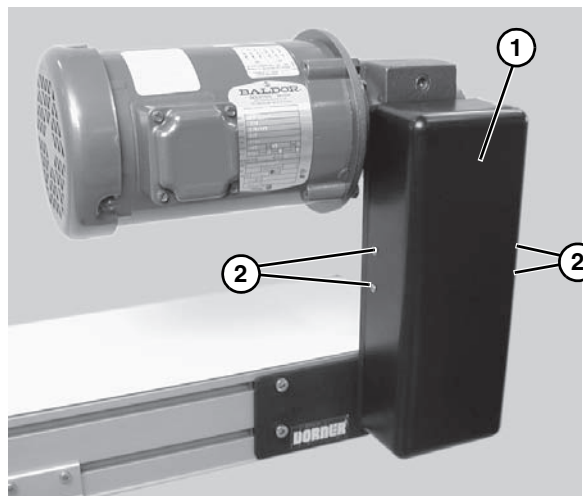

Figure 11
10. Install cover (**Figure 11, item 1**) with four (4) screws (**Figure 11, item 2**). Tighten screws to 35 in-lb (4 Nm).
1. Remove four (4) screws (**Figure 11, item 2**) and remove cover (**Figure 11, item 1**).
4. Install cover (**Figure 11, item 1**) with four (4) screws (**Figure 11, item 2**). Tighten screws to 35 in-lb (4 Nm).
6. Install cover (**Figure 11, item 1**) with four (4) screws (**Figure 11, item 2**). Tighten screws to 35 in-lb (4 Nm).